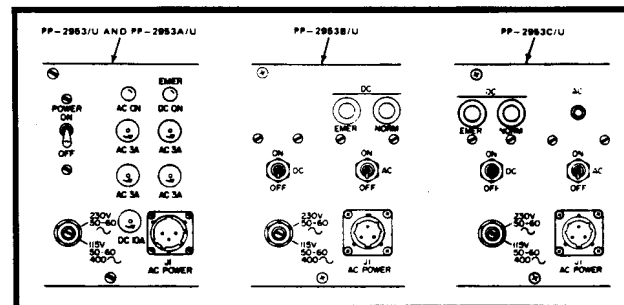

Figure 2. Operator Control Panels
- b. Become familiar with the operator control panel of the appropriate model power supply (PP-2953(*)/U) (Figure 2).